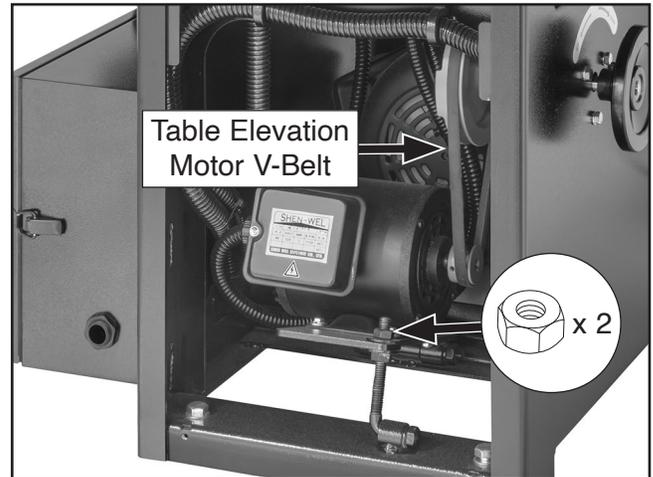

Figure 66. Table elevation motor V-belt components.
3. Rotate (2) V-belt tension nuts (see **Figure 66**) counterclockwise to release V-belt tension until you can remove V-belt from pulleys.